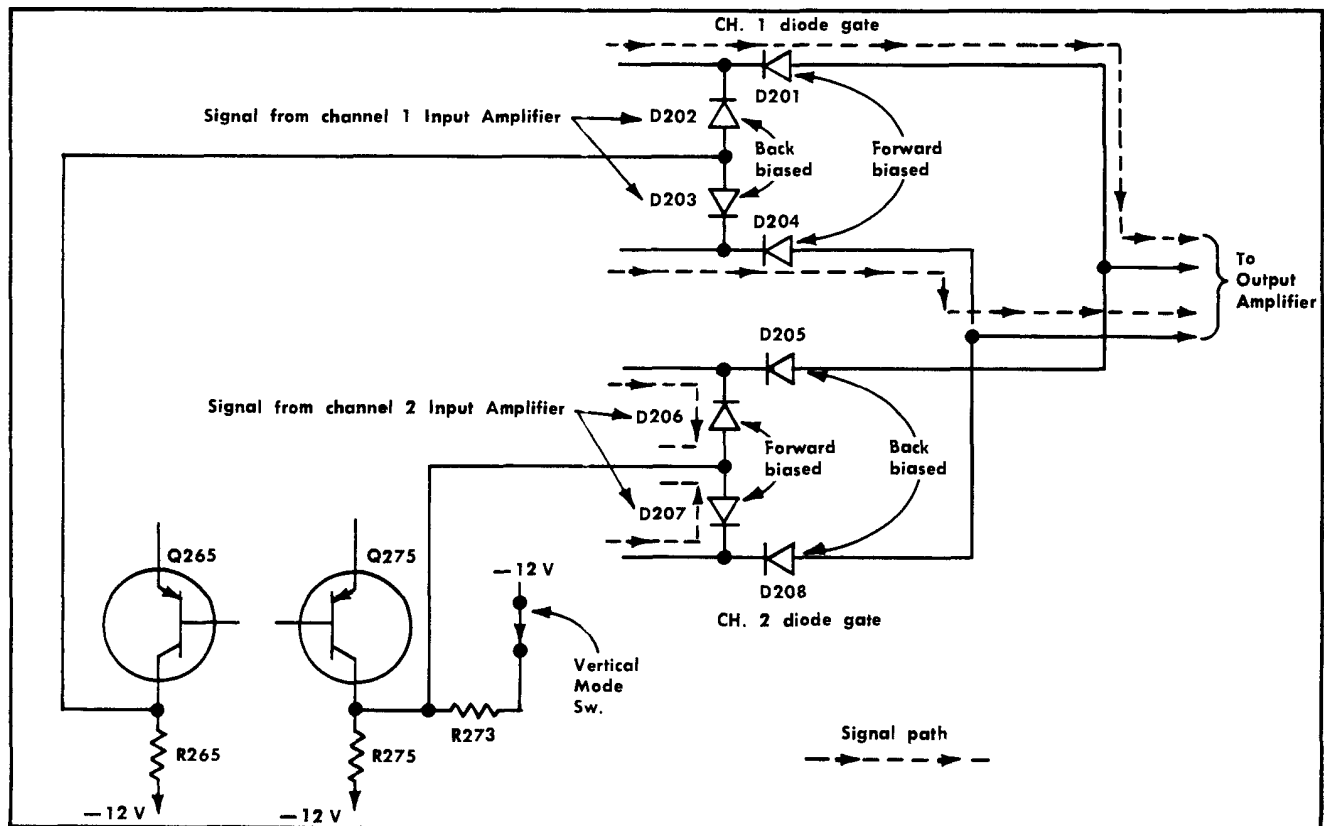

Fig. 3-3. Illustration of the effect of the diode gates on the signal path in CH 1 position of the Mode switch.
**CH 1 and 2.** In the CH 1 position of the Mode switch (see Fig. 3-3), +12 volts is applied through R273 to the junction of D206 and D207 (Channel 2 diode gate). This forward biases D206 and D207 and back biases D205 and D208. Therefore, Channel 2 signal is clamped by D205 and D208 and cannot pass to the Output Amplifier.